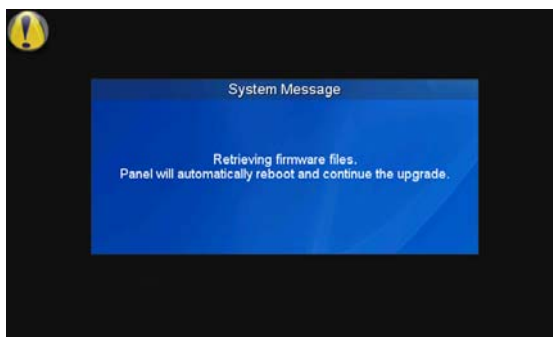

FIG. 105 Upgrading from Previous Firmware System Message
5. If you choose **Yes**, the device will retrieve the files and then reboot (FIG. 105).